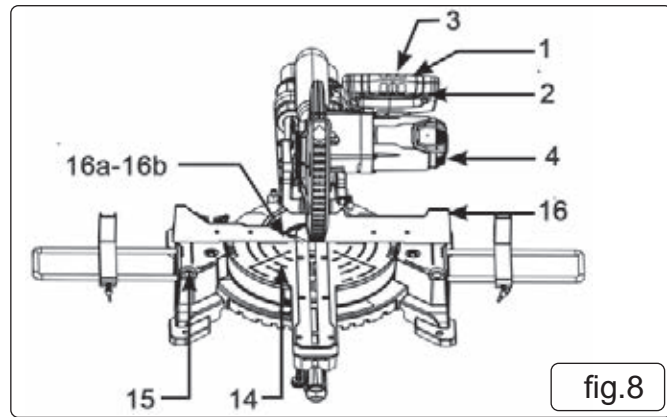

fig.8
- 6.2.1. Unscrew set screw (Fig 8 - 16b) for the moveable stop rail (fig 8 - 16a), move the stop rail towards the saw blade, with a maximum gap of 8mm. Tighten set screw (fig 8 - 16b) to lock moveable stop in position.
- 6.2.2. Place the piece of wood to be cut hard against stop rail (fig 8 - 16) and onto the turn table (fig 8 - 14).
- 6.2.3. Secure the material with clamping device (fig 4 - 7) onto the fixed table (fig 8 - 15) to prevent the material from moving during cutting.
- 6.3.3. Holding the handle (fig 8 - 1) push the machine head (fig 8 - 4) to the rear of the drag guide (fig 2 - 21) and lock in position by tightening screw (fig 2 - 20).
- 6.3.5. Slowly push the machine head downwards via the handle (fig 8 - 1), and continue to move the machine head down until the saw blade (fig 2 - 6) has completely cut through the workpiece.
- 6.4.2. Pull the machine head (fig 8 - 4) to the front of the drag guide. Lower the handle (fig 8 - 1) to it's lowest position and push the machine head slowly and steadily backwards until the saw blade has completely cut through the work piece.